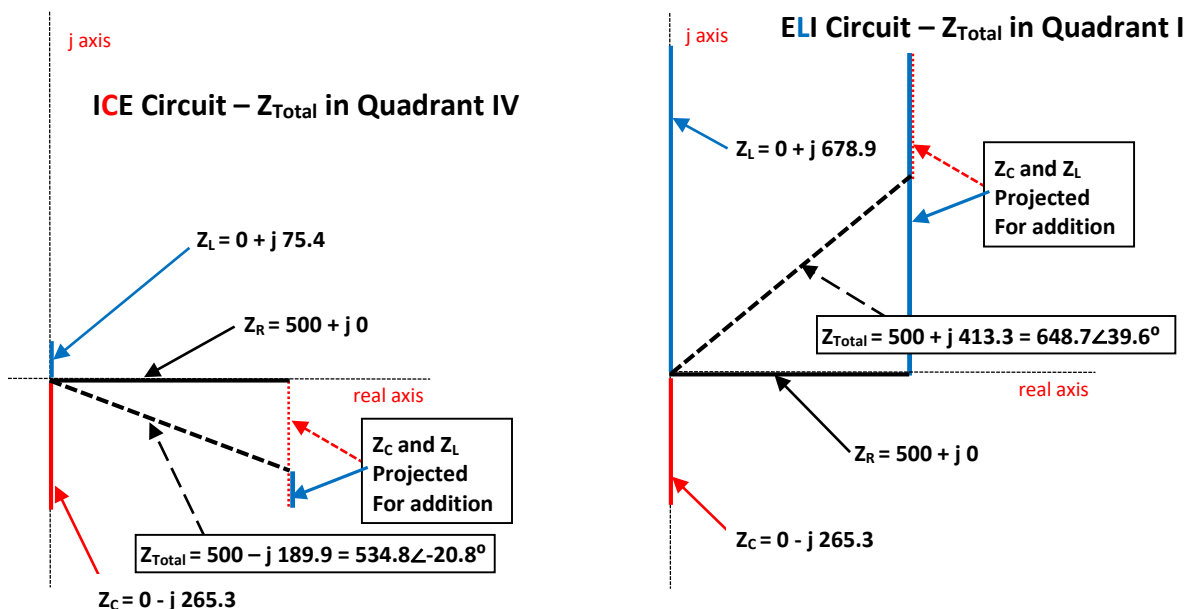

Figure 3.9: Impedance Plots for Example3.4. Case 1: $L = 0.2 \text{ H}$ (Left Plot), Case 2: $L = 1.8 \text{ H}$ (Right Plot)
The phasors for the total impedance (Z_{tot}) for each of the two cases ($L = 0.2 \text{ H}$ and $L = 1.8 \text{ H}$) are calculated in textbox in Figure 3.8. An impedance plot is performed in Figure 3.9 to help verify the total impedance was calculated correctly.
* Case 1: $L = 0.2\text{ H}$, $Z_{\text{Total}} = 534.8 \angle -20.8^\circ$ (see Fig. 3.9)	* Case 2: $L = 1.8\text{ H}$, $Z_{\text{Total}} = 648.7 \angle 39.6^\circ$ (see Fig. 3.9)